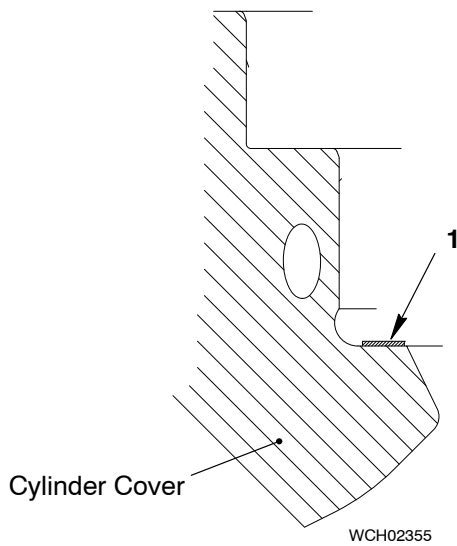
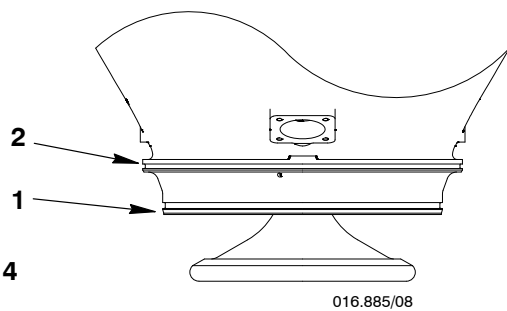

Fig. 3
Fig. 4
- 3) Remove the 2.0 mm metal gasket (1, Fig. 3) from the cylinder cover.
- 4) Clean the the 2.0 mm metal gasket (1).
- 5) Examine the 2.0 mm metal gasket (1) for damage. Make sure that the dimension of the metal gasket is correct.
- 6) If the 2.0 mm metal gasket (1) has damage, or the dimension is not correct, replace the gasket.
- 7) Put the 2.0 mm gasket (1) in position in the cylinder cover.
- 8) Put a thin layer of oil on the new O-rings (1 and 2, Fig.4).